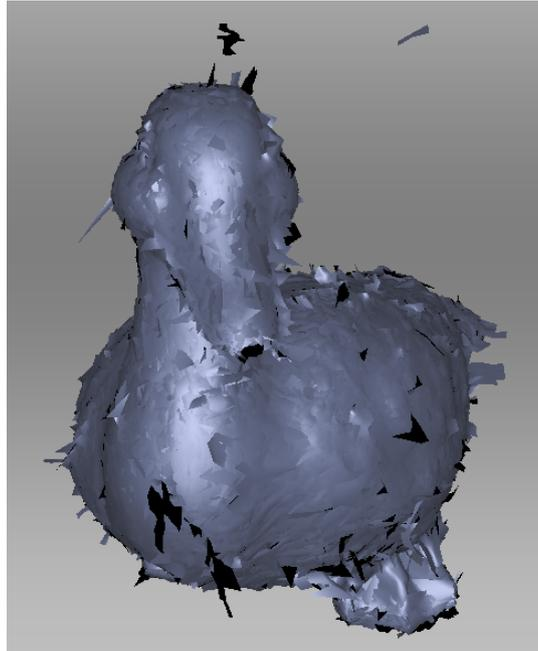

Figure 74: Alignment result.
4. Click *Align...* to run the alignment with your specified constraints (Figure 74 shows example results). If you are dissatisfied with the alignment results, click  and specify additional point sets, or reposition the current sets. To redo an operation that you have undone, click  .